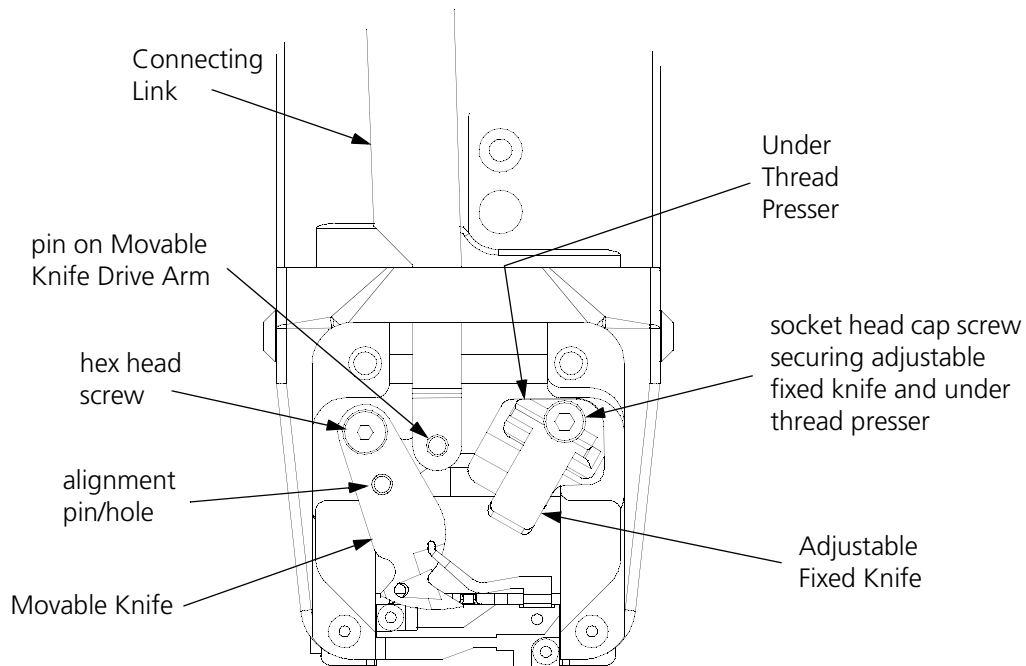

Figure 4-13
3. Lift the forward end of the connecting link from the pin on the movable knife drive arm (see Figure 4-13).
1. While the machine is still turned off, remove the bed cover and disconnect the connecting link from the movable knife drive arm by lifting it from the front pin (see Figure 4-13).
7. After you are satisfied with the under thread presser action, reattach the connecting link (see Figure 4-13).
1. With the machine turned off, disconnect the connecting link from the movable knife drive arm by lifting it from the front pin (see Figure 4-13).
These two set screws together with the larger socket head cap screw that secures the adjustable fixed knife and under thread presser at the top of the needle plate bracket (see Figure 4-13) provide for the knife adjustment.